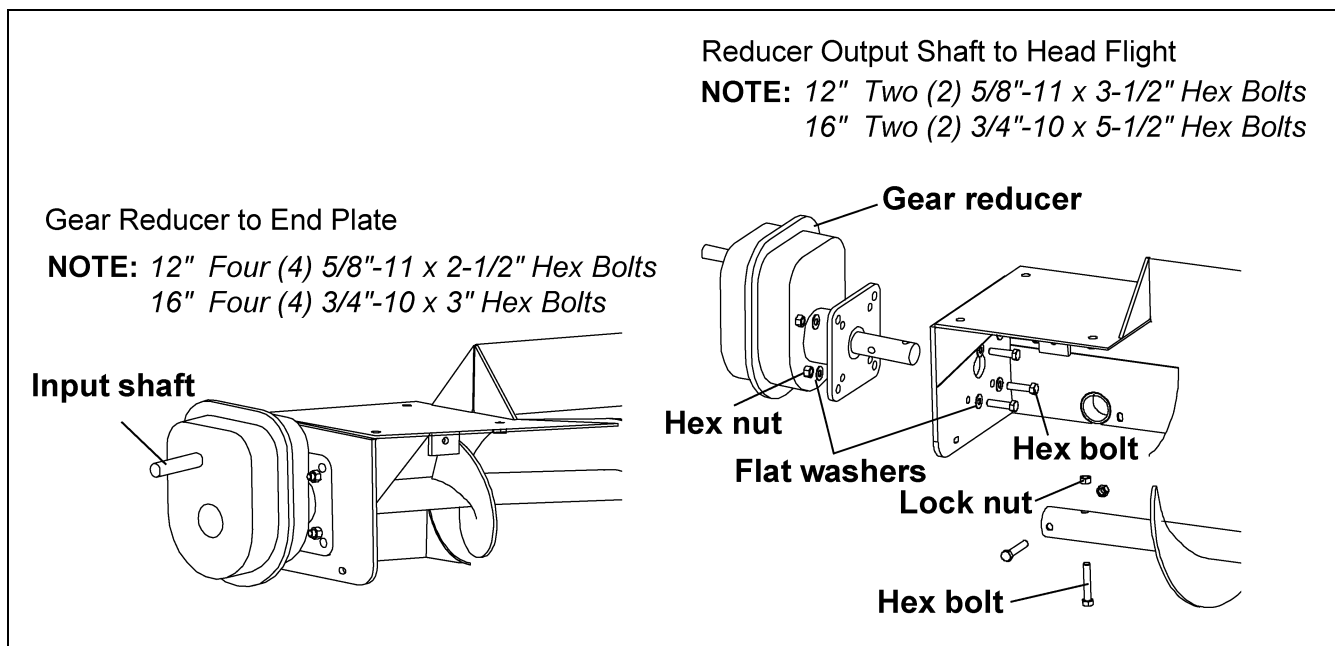

Figure 5P
- A. Slide the output shaft of the reducer through the end plate of the head section and into the end of the head flight. Secure the Reducer Output Shaft to the Head Flight with hex bolts and lock nuts. (See Figure 5P on Page 34.)
- B. Bolt the reducer to the end plate of the head section using hex bolts, flat washers and lock washers, supplied with the reducer. (See Figure 5P on Page 34.)